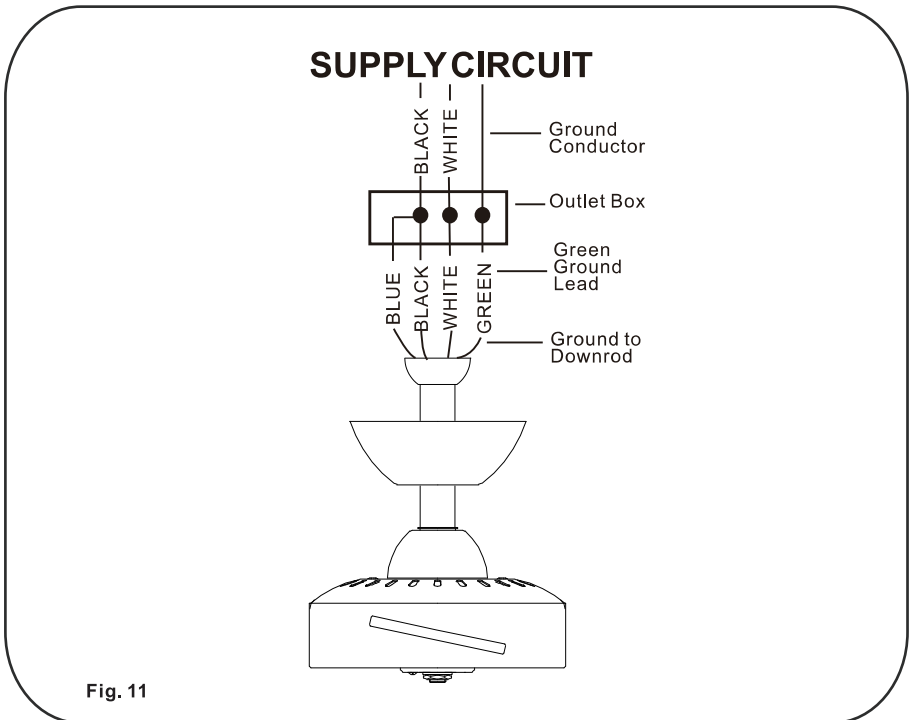

Fig. 11
Step 1. Connect the black (hot) wire from the ceiling to the black and the blue wires from the fan. Connect the white (Neutral) wire from the ceiling to the white wire from the fan. (Fig.11)
Step 2. Connect the ground wire (Green or Bare Copper) to the ground wire from hanger ball and the ground wire from hanger bracket. (Fig.11)